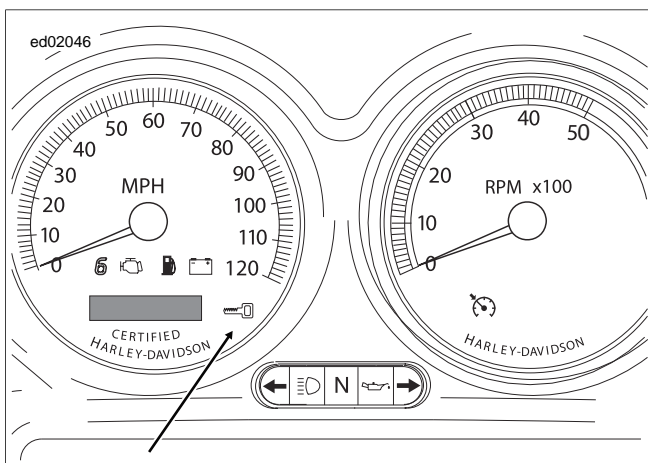

Figure E-6. Security Lamp (Key Icon - Typical)
- See Figure E-6. When the ignition switch is turned IGNITION, the security lamp illuminates for approximately four seconds and then turns off.